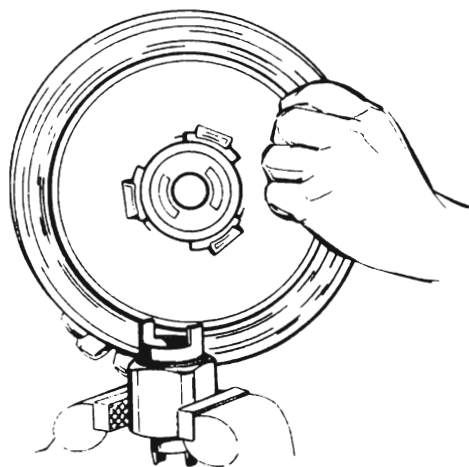

Figure 50-63 Positioning Primary Power Piston In Tool J-23101 (Small Dia. End Up) Mounted In Vise
10. Mount tool J-23101 in a vise (*with small diameter end up*). Position the primary power piston so that the two radial slots in the piston fit over the ears (tang) of the tool. See Figure 50-63.